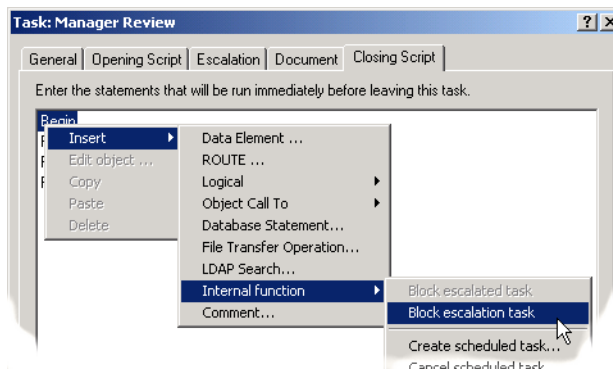

Figure 31-10. The Manager Review escalated task with the `BlockEscalationTask()` being inserted.
- ❶ Click on an escalated task, then click the **Closing Script** tab, right-click on a statement, select the **Insert** drop-down menu, select the **Internal Functions** drop-down menu, and select **Block Escalation Task** (see Figure 31-10, below).